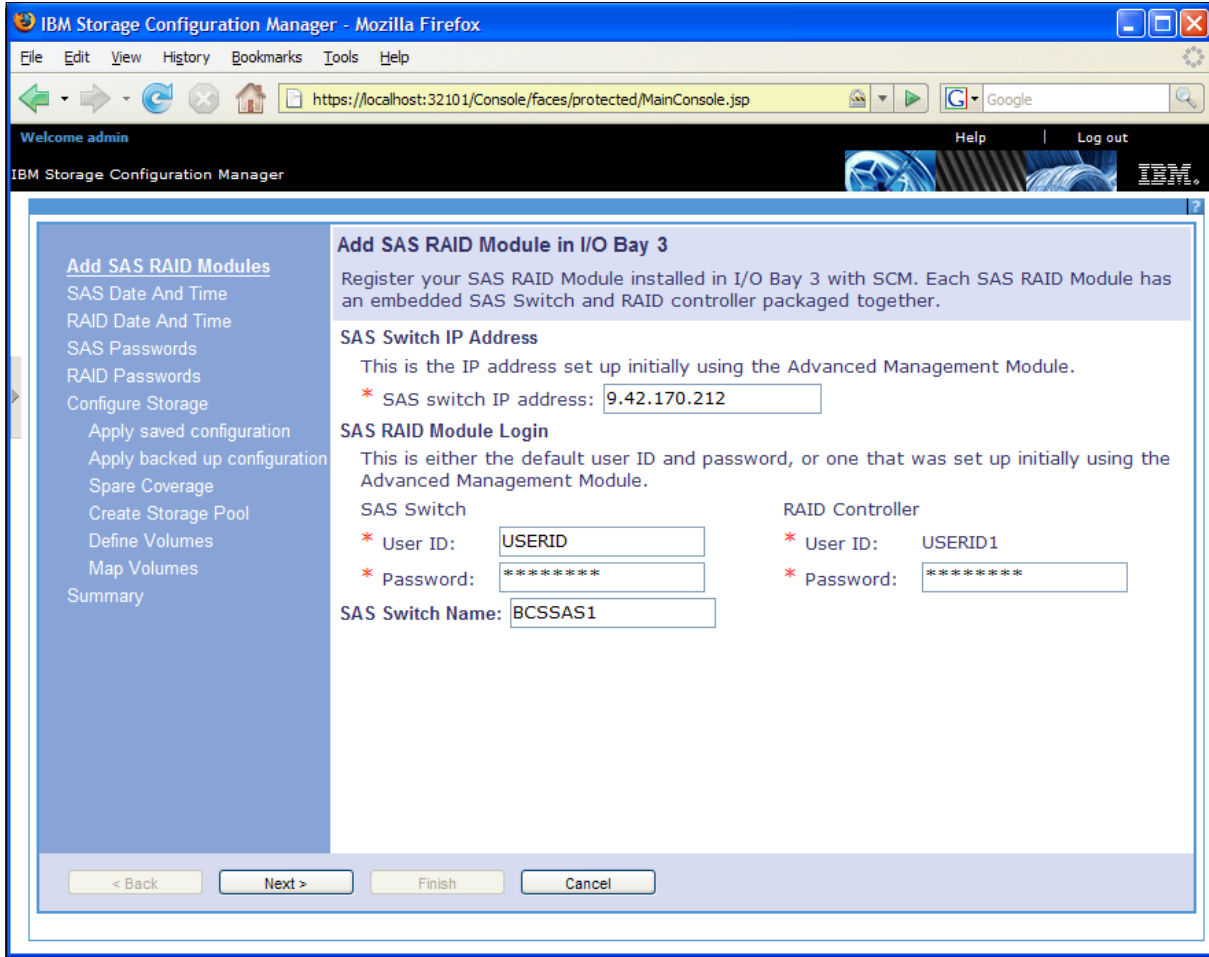

Figure 2-33 Adding a IBM BladeCenter S SAS RAID Controller Module to Storage Configuration Manager
2. On the “Add SAS RAID Modules in I/O Bay 3” panel (Figure 2-33 on page 53), add the IP address of the SAS switch inside the IBM BladeCenter S SAS RAID Controller Module installed in bay 3. Provide the User ID and password for the built-in SAS switch and the RAID Controller. Click **Next**.